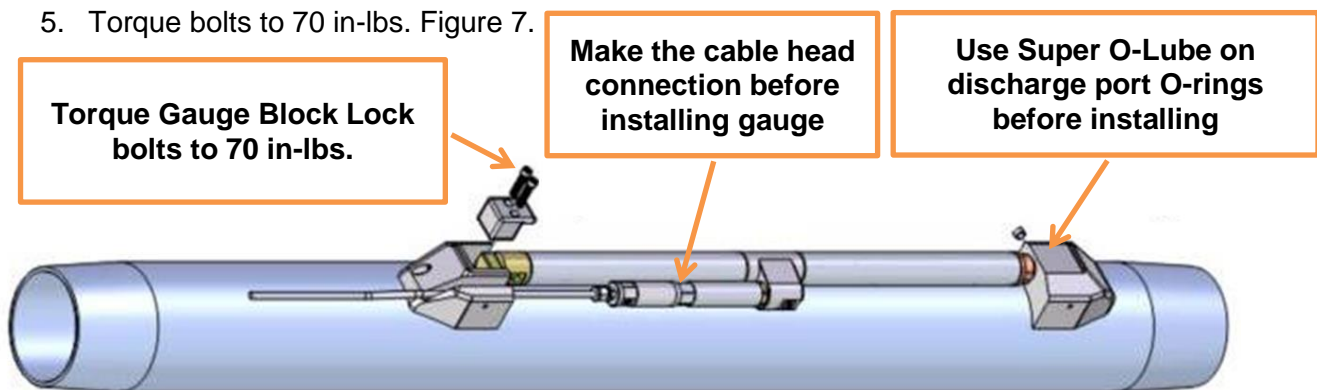

Figure 7. Installing the AMERADA C-5000/5500 in the gauge carrier.
2. Use Super O-Lube on gauge discharge port O-rings. Figure 7.
3. Place the AMERADA C gauge into the gauge carrier by sliding the port end of the gauge into the carrier gauge inlet. Figure 7.
4. Place the gauge lock block over the other end of the gauge and screw the 2 bolts in until they are hand tight. Figure 7.
5. Torque bolts to 70 in-lbs. Figure 7.